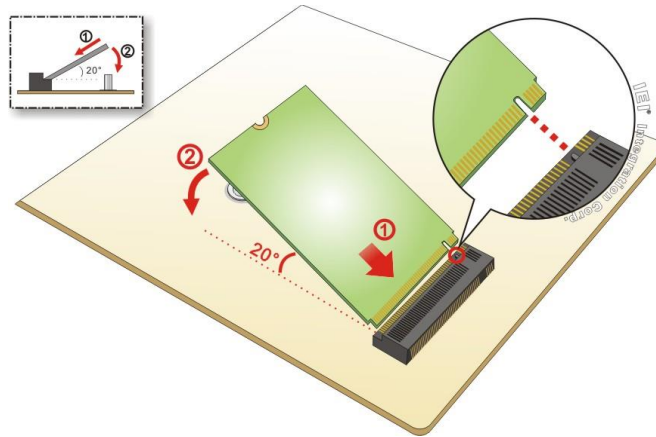

Figure 4-1: Inserting The M.2 Module Into The Slot At An Angle
Step 3: Line up the notch on the module with the notch on the slot. Slide the M.2 module into the socket at an angle of about 20° (**Figure 4-1**).
Step 2: Line up the notch on the M.2 module with the notch on the slot. Slide the M.2 module into the socket at an angle of about 20°. (See **Figure 4-1**)